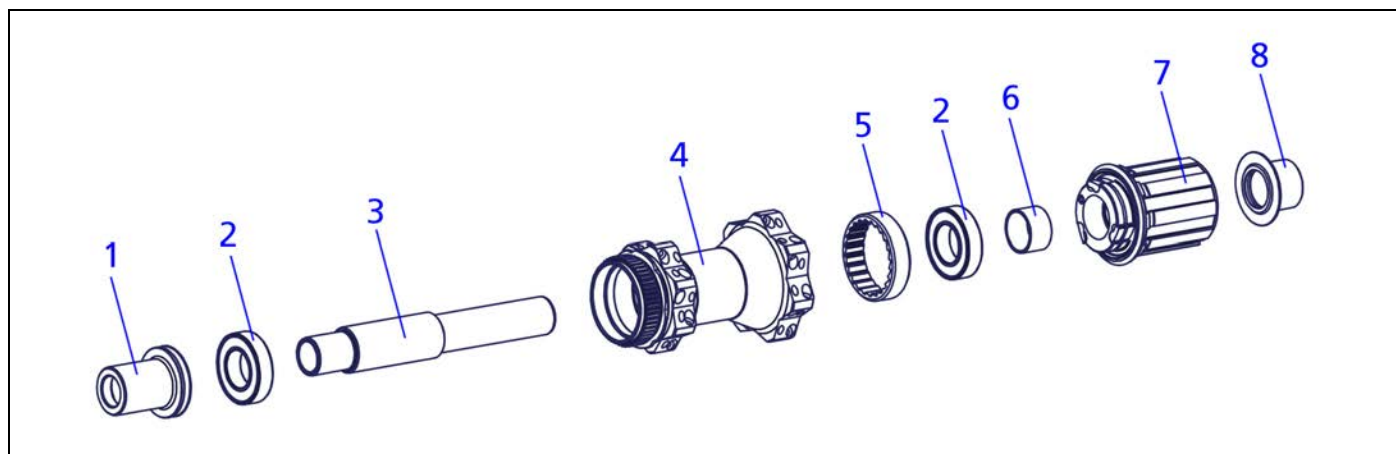

Figure 4-2: Overview Three Pawl System
1. Clamp the right end cap (fig. 4-2/8) into a vise.
2. Pull off the wheel, respectively the hub. Take care that the rotor (fig. 4-2/7) does not fall off.
3. Clamp the left end cap (fig. 4-2/1) into a vise.
5. Pull the rotor (fig. 4-2/7) off the hub.
6. Pull the spacer (fig. 4-2/6) off the axle.
2. Slightly grease the rotor (fig. 4-2/7) and the rotor sealing.
- 2. Slide the spacer (fig. 4-2/6) onto the axle.
3. Slide the rotor (fig. 4-2/7) onto the hub while performing a rotary motion.
5. Grease the bearings and the inner surface of both end caps (fig. 4-2/1, 8).
6. Put on both end caps (fig. 4-2/1, 8) and push them in by hand.